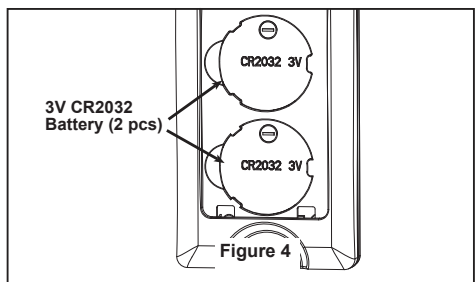

Figure 4
- ☐ 4. To make fan operational, install two 3V batteries (included) in hand-held remote transmitter, with fan power off. Then, follow the remote code setting process. If not used for long periods of time, remove battery to prevent damage to transmitter. Store the remote away from excessive heat or humidity. (Figure 4)